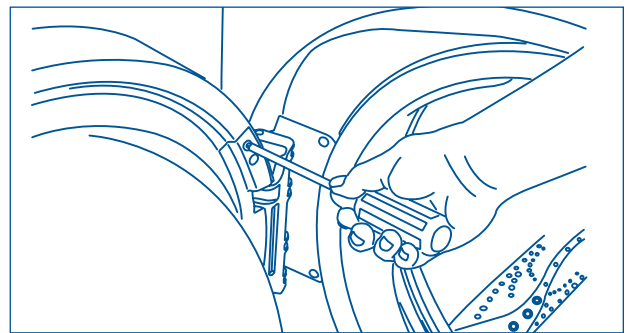

Figure 2-10.
2. Remove 4 long, course-thread, counter-sunk hinge screws from door. (See Figure 2-10)